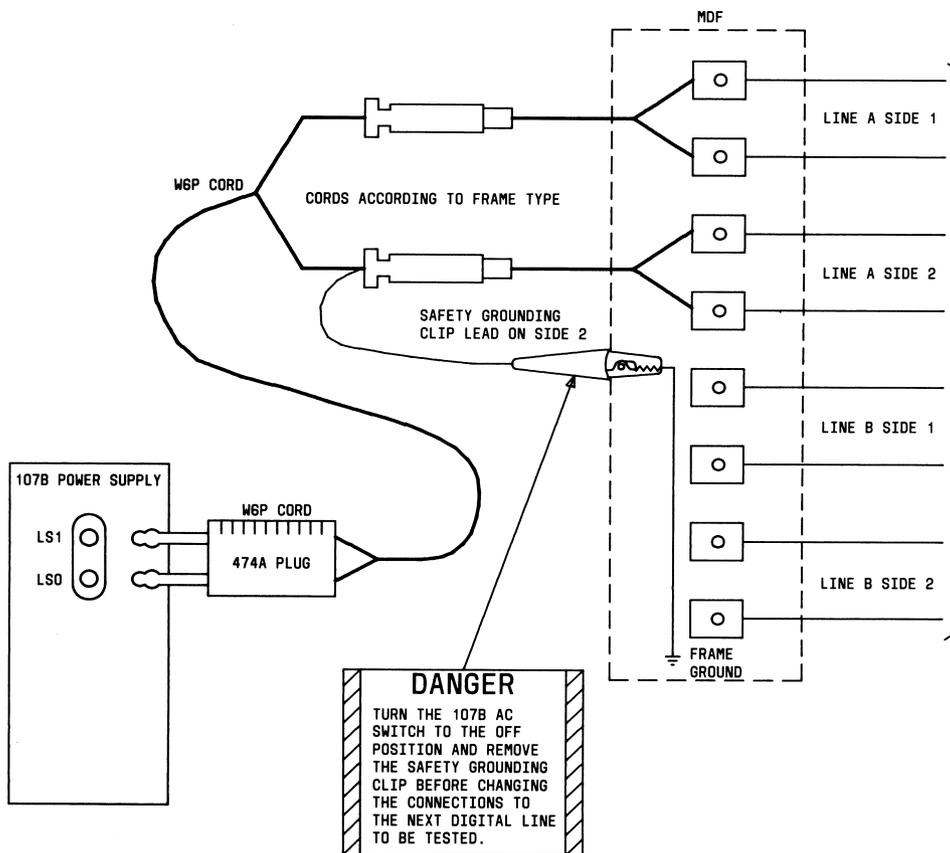

Fig. 7—Test Arrangement Without Use of Line Test Adapter
- 5 Complete the following patch/test cord connections in the order given (see Fig. 7).
<p>Note 1: Side 2 of the W6P cord is equipped with a safety grounding clip which corresponds to the knurled side of the 474A plug on the other end of the cord.</p> <p>Note 2: Verify that the connections are as given in Step 5 and Fig. 7; otherwise, incorrect readings will result.</p>